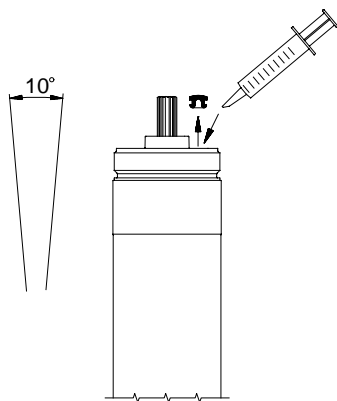

Fig. 2 Injecting motor liquid
4. Inject motor liquid into the motor with a filling syringe or similar tool, see fig. 2.